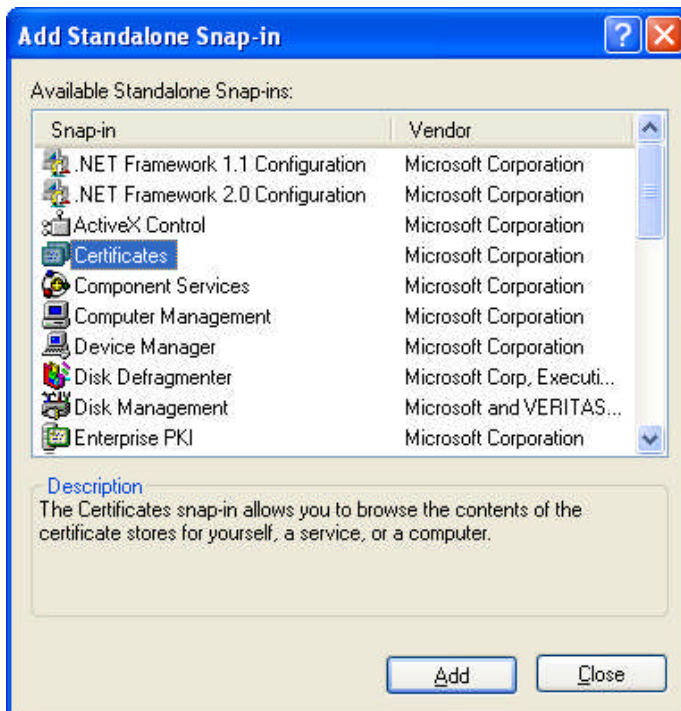

Figure 1-4
- Select Certificates, and then click 'Add' as in the figure below (Figure 1-4).